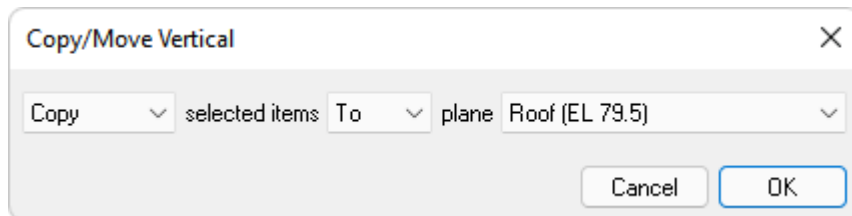

FIGURE 4-3
- Go to *Modify* → *Copy/Move* and click on the **Copy/Move Vertical**  icon. This will open the *Copy - Move* window as shown in **FIGURE 4-3**.